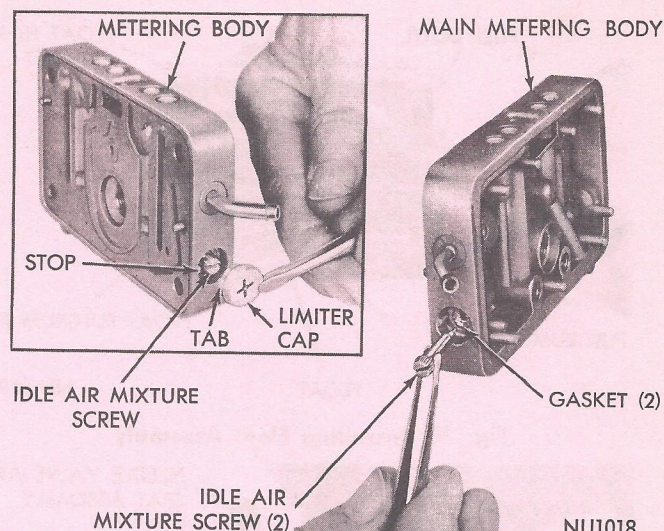

Fig. 19—Installing Idle Air Mixture Screws and Gaskets
(from seat) counted at disassembly (Fig. 19). Before installing screws, be sure the tapered portion is grooved or ridged, a new idle air mixture screw must be installed to insure having correct idle mixture control.
- (4) Install new plastic caps over idle screws, with tabs on caps against stops in bore (Fig. 19).